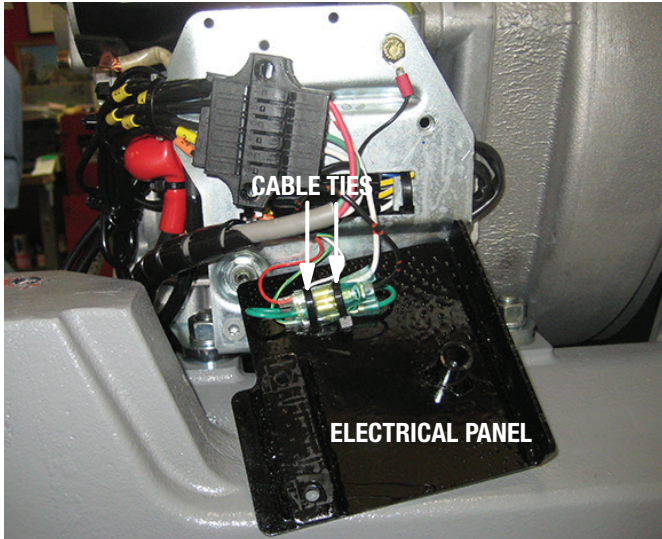

Figure 22. Cable Tie and Electrical Panel Removal (MVH508DZ)
6. Cut and discard the cable ties securing the bundled electrical connectors to the back of the electrical panel (Figure 22). Remove the panel and set it aside.